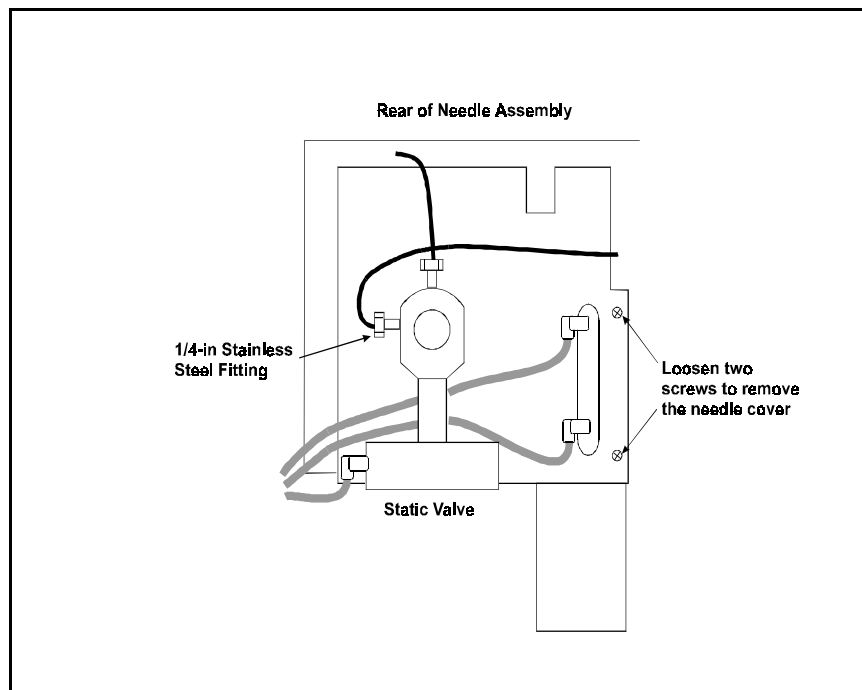

Figure 5-3. Rear View of Needle Mechanism
3. Remove the vial needle cover. To do this, use a Phillips screwdriver to loosen the two screws located on the back of the needle mechanism (see Figure 5-3). Pull the needle mechanism to the left toward the back of the instrument. Lift the cover up and off. Push the mechanism back toward the vial tray.
3. Remove the vial needle cover. To do this, use a Phillips screwdriver to loosen the two screws located on the back of the needle assembly (see Figure 5-3). Pull the needle assembly to the left, toward the back of the instrument. Lift the cover up and off. Push the assembly back toward the vial tray.